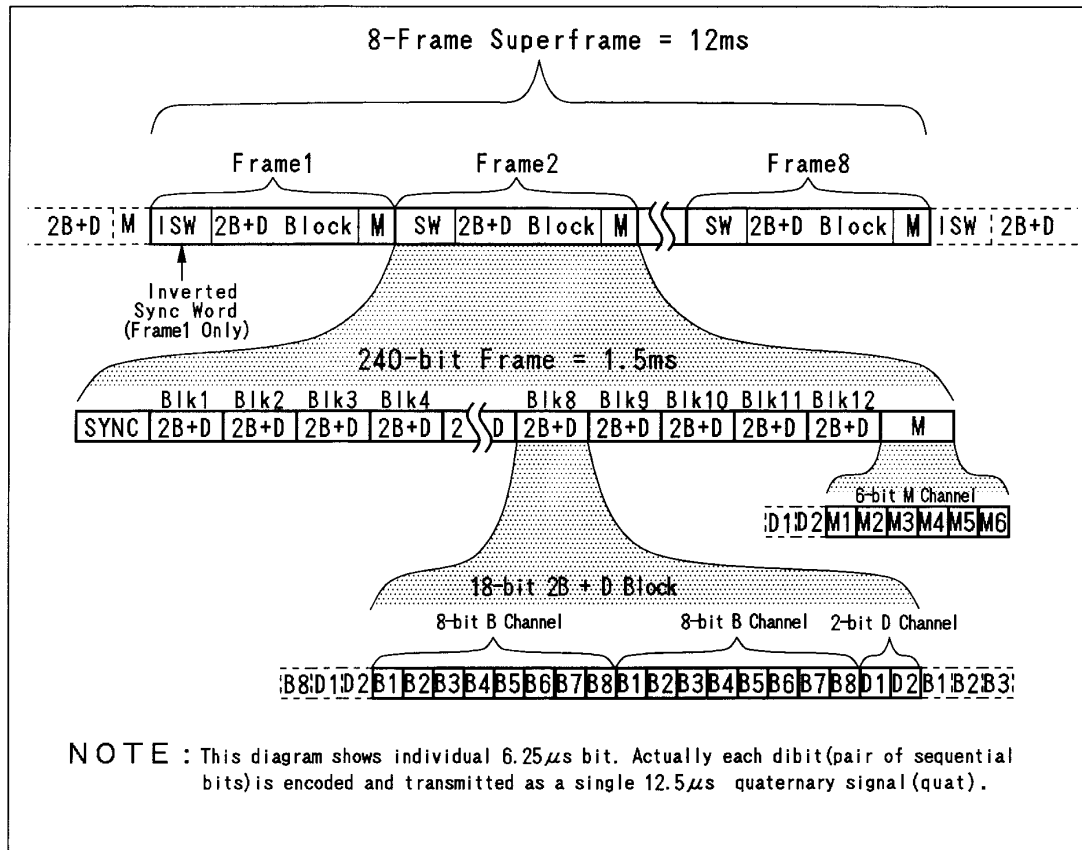

Fig. 6 U-Interface Framing Format
The AK520S U-Interface transmits a 120 quat (or 240 bit) frame as shown in Fig 6. Each frame starts with 18 internally generated sync word (SW), followed by 216 data bits and ends with 6 M channel bits. A superframe consists of eight 240-bit frames. Superframe alignment is indicated by an inverted sync word (ISW) in the first frame of every superframe. Fig. 6 shows the ISDN 2B+D format where the 216 data bits are structured as 12 blocks of 2B+D data. Each block of 2B+D data consists of two 8-bit B channels and a 2-bit D channel.